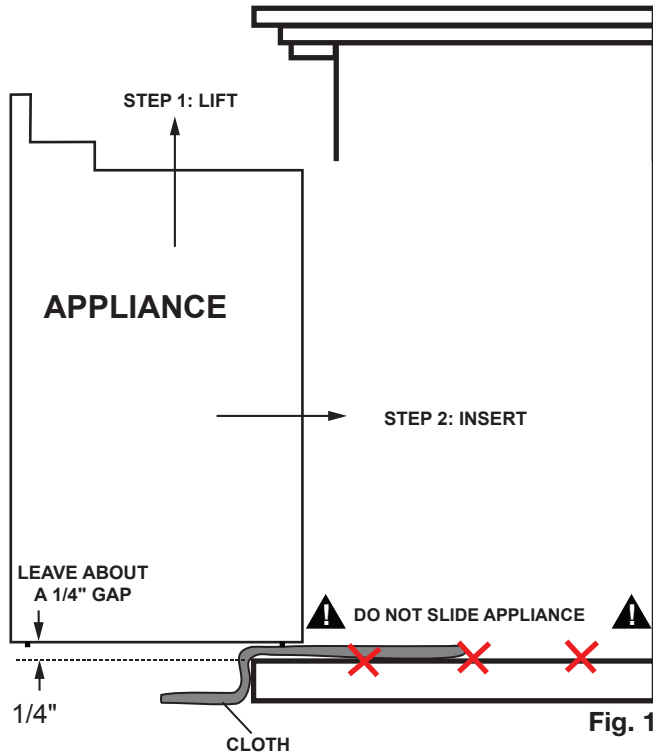

Fig. 1
- B. With 2 people, lift the appliance up and insert into the opening, leave space between the appliance and floor base in order to not scratch the floor surface. Do not push or slide the bottom of the appliance on the floor base (**Fig. 1**).